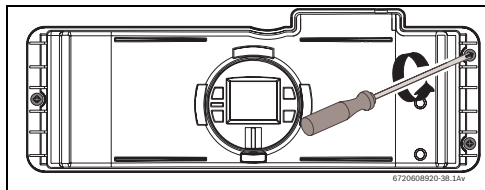
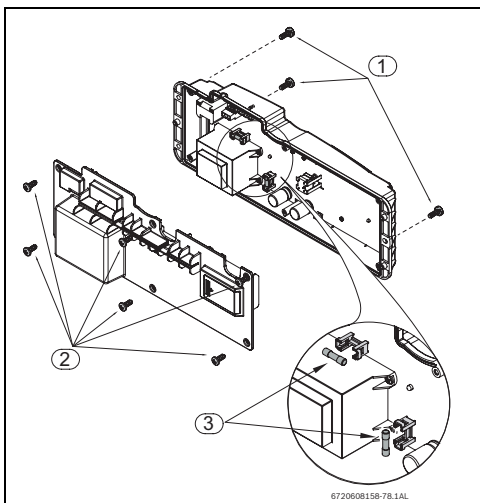

Fig. 46
Fig. 47 Fuses position
- Remove the three screws from the control unit (Fig. 46 e Fig. 47 , pos. 1).
- Remove the six screws from the back cover of the control unit, see Fig. 47 , pos. 2.
- Check the fuses in the printed circuit board, see Fig. 47 , pos. 3.
- After checking the fuses, reinstall all parts in reverse order (Fig. 47 , pos. 3).